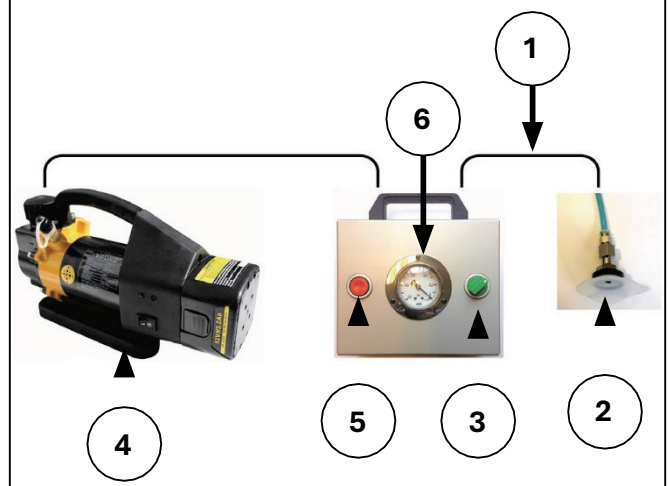

Figure 6: Checking for leaks in the equipment setup
1. Push the fitting on the end of the hose (figure 6, 1) onto the correct pump adaptor for the product. See the table in "Pump Adaptor" on page 3.
2. Locate the pressure relief valve (1) on the product and remove it carefully.
5. Turn the **GREEN** Test / Equalize selector (figure 6, 3) to the **TEST** position.
6. Turn **ON** the vacuum pump (figure 6, 4).
7. Press and hold the **RED** Vacuum Activation button (figure 6, 5) until the manometer (figure 6, 6) shows the correct vacuum level for the product.
8. Release the **RED** Vacuum Activation button (figure 6, 5).
9. Turn the **GREEN** Test / Equalize selector (figure 6, 3) gradually to the **EQUALIZE** position to allow air into the system.
10. Turn the **GREEN** Test / Equalize selector (figure 6, 3) back to the **TEST** position.
11. Press and hold the **RED** Vacuum Activation button (figure 6, 5) until you obtain the correct vacuum level.
12. Release the **RED** Vacuum Activation button (figure 6, 5).
7. Turn **OFF** the vacuum pump (figure 6, 4).
8. Turn the **GREEN** Test / Equalize selector (figure 6, 3) to the **EQUALIZE** position and wait for the manometer needle to return to zero.